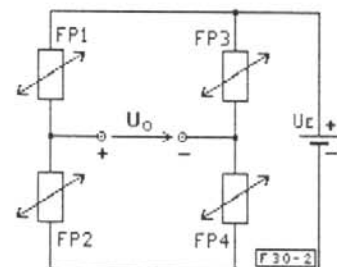

Fig. 3: Wheatstone bridge circuit of the field plates
The field plates are connected electrically into a Wheatstone bridge circuit as shown in Fig. 3. The measuring system is adjusted so that the bridge is zeroed in the rest position. When the rod is loaded by a force (F) in the axial direction the core (A) is displaced by a distance (D). There is a corresponding change in the magnetic field acting at the field plates and therefore in their resistance, so that the bridge is unbalanced. This out-of-balance of the bridge can be measured as a corresponding bridge output voltage U_0 .